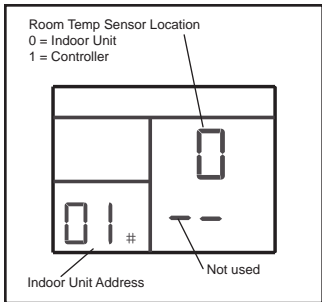

Figure 10. Room Temp Sensor Location
- Room temperature sensor location (wired controller or indoor unit) (Figure 10)